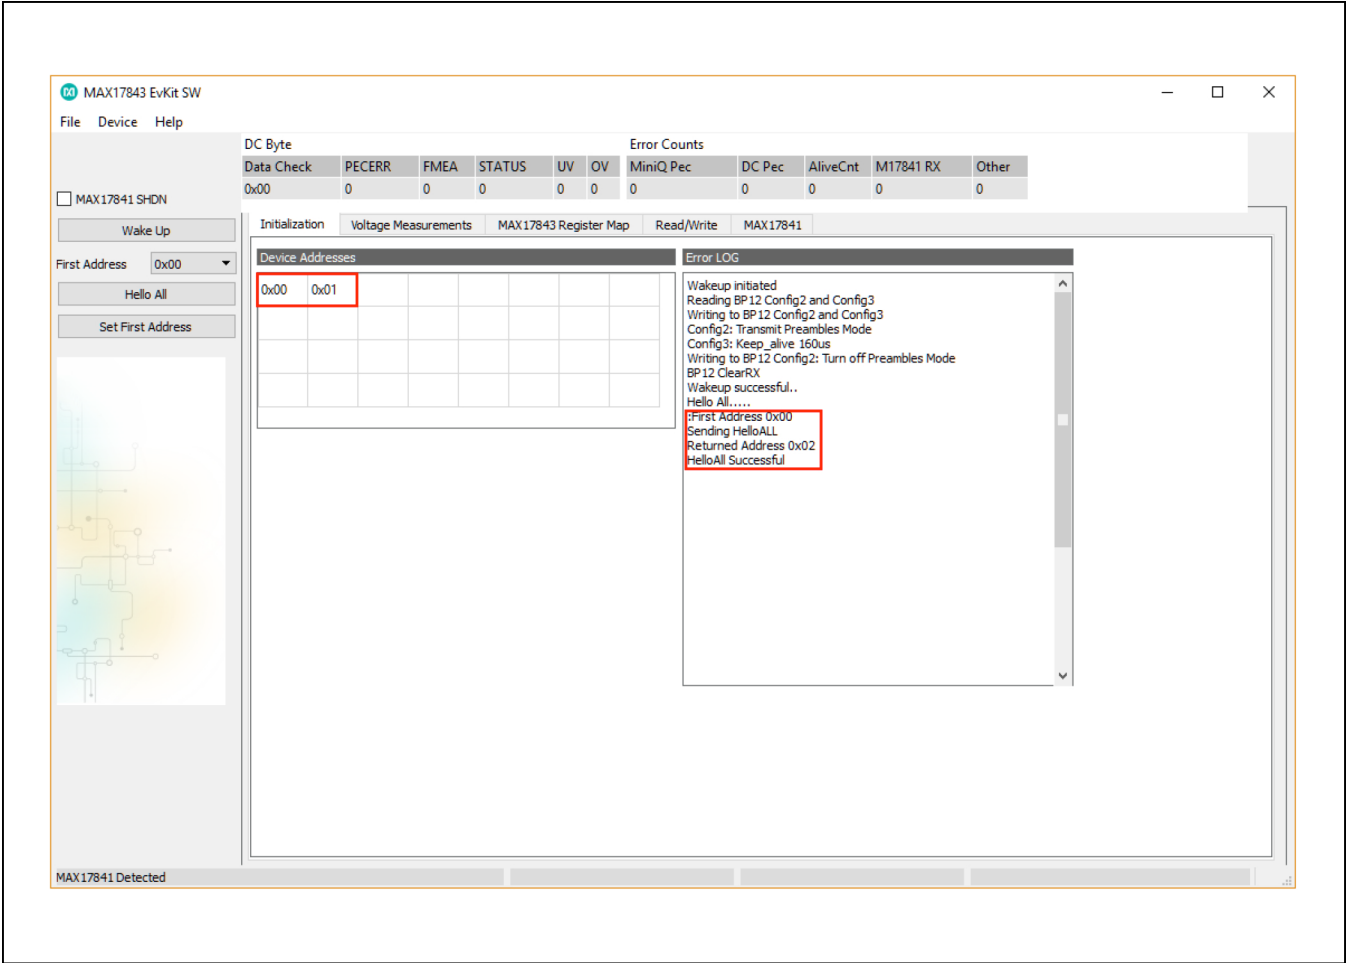

Figure 3. MAX17843 EV Kit Software (Installation Tab—Set First Address)
- 18) Click the **Set First Address** button (Figure 3).
- 19) Verify that the **Device Addresses** grid contains two device addresses (Figure 3).
- 6) Click the **Set First Address** button (Figure 3).
- This control writes the address of the first device to the upper 8 bits of each device's 16-bit ADDRESS register. This control uses the WRITEALL command. This control also updates the **Device Addresses** grid, as shown in Figure 3.
When the **Set First Address** sequence is complete, the software updates the grids on the **Device Addresses Grid** box (Figure 3).
The **Device Addresses** grid is initialized after clicking the **Set First Address** button (Figure 3). The grid contains the addresses of all detected devices in the daisy-chain. For the two-device daisy-chain procedure with a start address of 0x00, the grid would be displayed as shown in Figure 3.